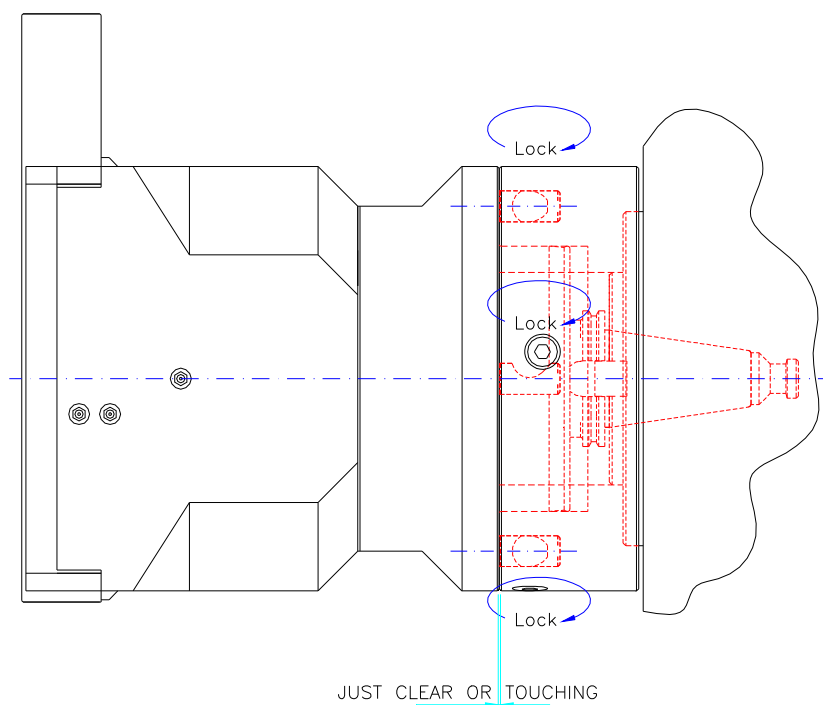

Fig 1.04 Locating and clamping the ZX 420 onto the machine
11. The ZX420 head is now ready for use (*See fig 1.04*)